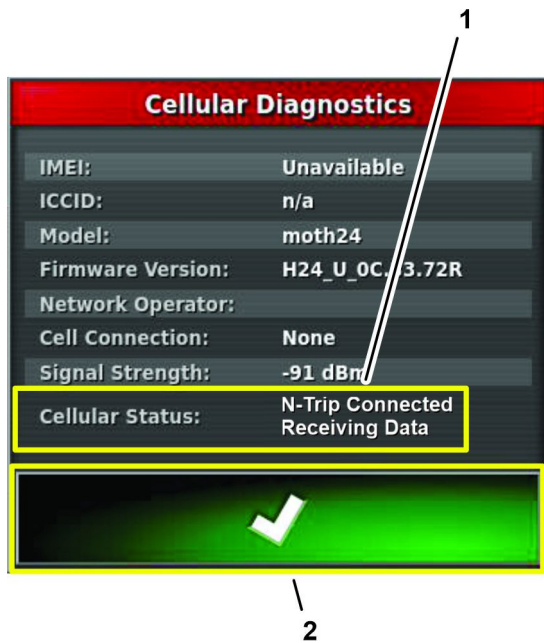

Figure 168
- Press the CELL DIAGNOSTIC icon, and verify that the cellular status field displays N-TRIP CONNECTED RECEIVING DATA (Figure 168).